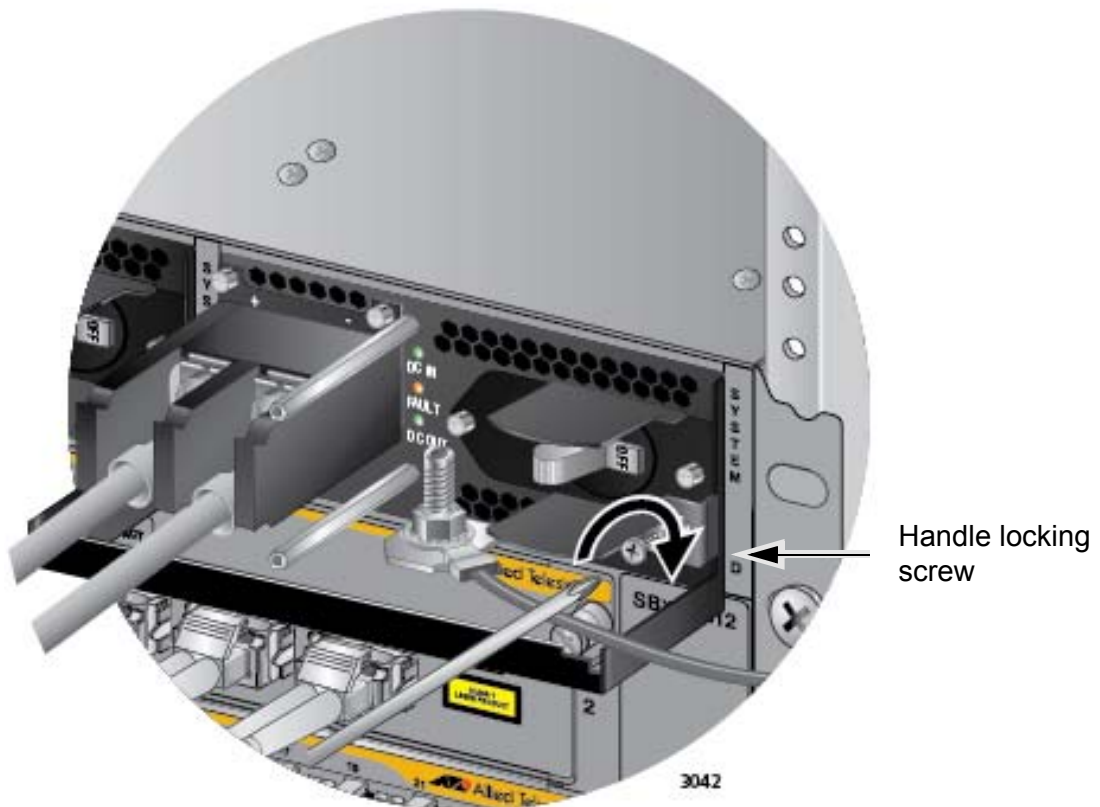

Figure 124. Tightening the Handle Locking Screw
8. With a #2 Phillips-head screwdriver, tighten the handle locking screw to secure the power supply to the chassis. See Figure 124 on page 170.